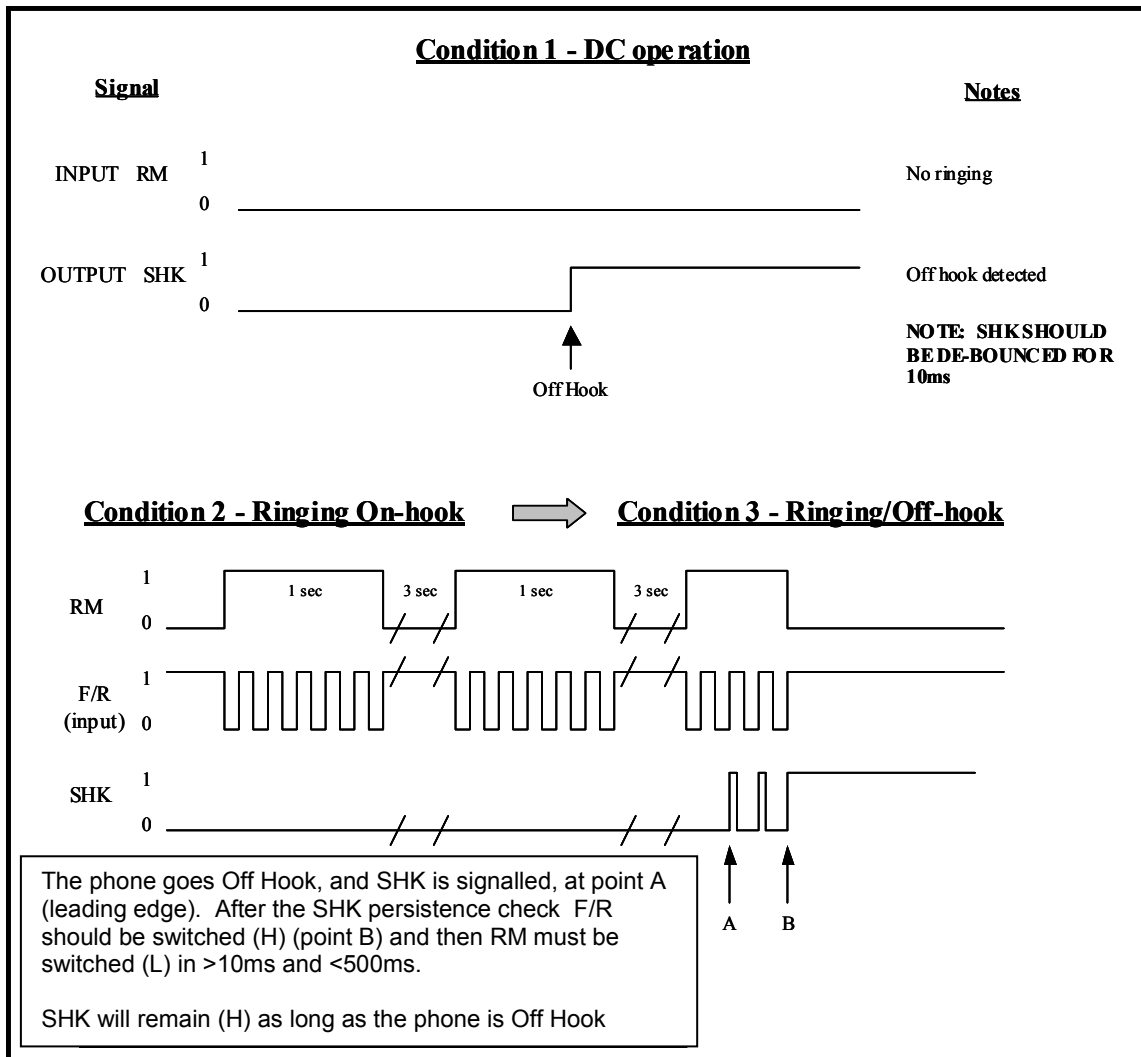

Figure 3: Ringing Signal Waveforms
The ringing signal is generated by switching the SLIC into ringing mode, by setting the RM pin high, and then toggling the F/R pin at the required frequency and cadence. The toggling of the F/R pin produces a balanced signal at Tip and Ring. These signal waveforms are shown in Figure 3. Ringing voltage of approximately 60Vrms is applied to a single telephone set. To limit power consumption RM should only be set (H) during ringing and set (L) at all other times.